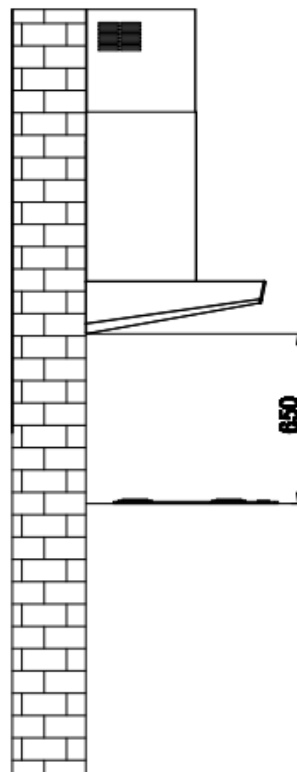

Fig. 5
- The extractor hood can be installed over any gas and electric cooktop. Minimum installation height from the bench top to the bottom of the hood is 650mm. Fig. 5